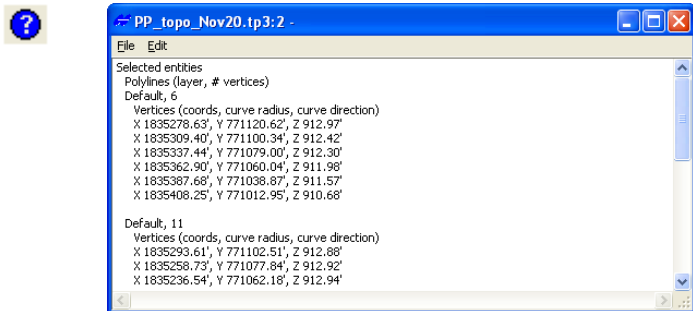

Figure 4-9. Click Information Button and View Selected Entities
2. Click the activated **Information** button on the toolbar. A text file opens, displaying linework information. (Figure 4-9).